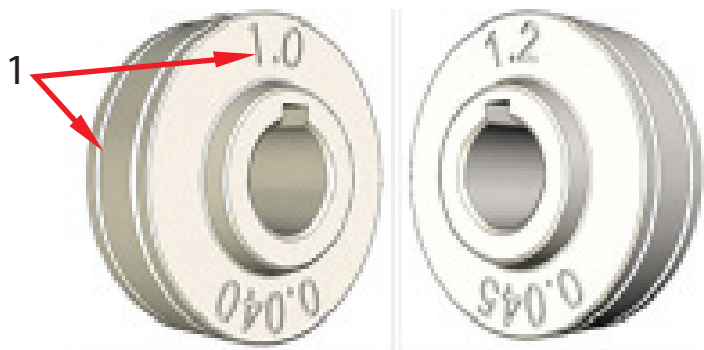

Figure 21. Wire-feed rollers offered in multiple sizes
1. Install the drive roller (in the correct size and in the correct groove orientation). Verify that the correct size groove is oriented on the inside (see Figure 21).